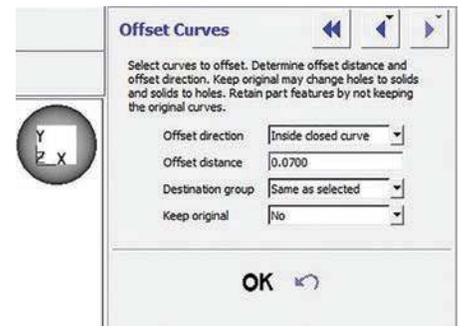

Figure 9: Offset all the support contours using the Offset Curves menu options.
STEP 11: From the **Edit** menu, select **Offset Curves** to offset all of the support contours that are outside of the outer perimeter model contour so that they are inside the new inner perimeter model contour. Change the **Offset direction** to **Inside closed curve**. Specify the desired value into the **Offset distance** field (in this case: 0.0700). Change the **Destination group** to **Same as selected**. Change **Keep original** to **No** (Figure 9).